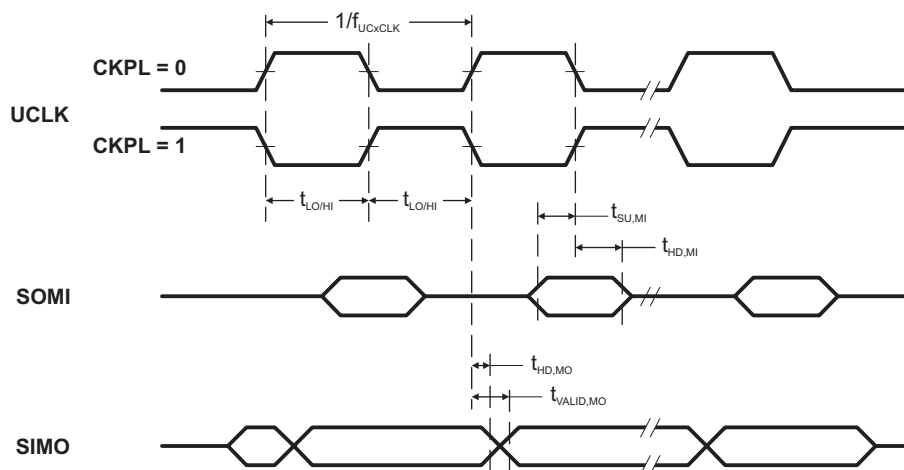
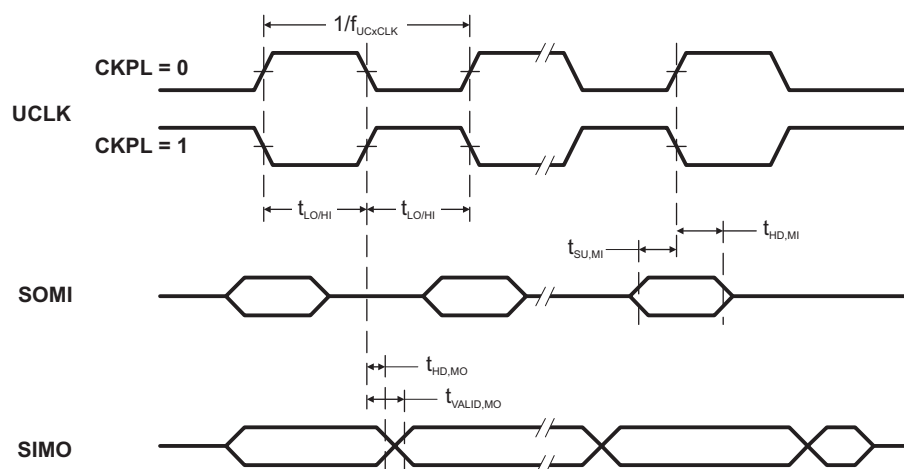

Figure 12. SPI Master Mode, CKPH = 0
Figure 13. SPI Master Mode, CKPH = 1
(see Note ⁽¹⁾, Figure 12 and Figure 13)
(2) Specifies the time to drive the next valid data to the SIMO output after the output changing UCLK clock edge. See the timing diagrams in Figure 12 and Figure 13.
(3) Specifies how long data on the SIMO output is valid after the output changing UCLK clock edge. Negative values indicate that the data on the SIMO output can become invalid before the output changing clock edge observed on UCLK. See the timing diagrams in Figure 12 and Figure 13.
(2) Specifies the time to drive the next valid data to the SOMI output after the output changing UCLK clock edge. See the timing diagrams in Figure 12 and Figure 13.
(3) Specifies how long data on the SOMI output is valid after the output changing UCLK clock edge. See the timing diagrams in Figure 12 and Figure 13.